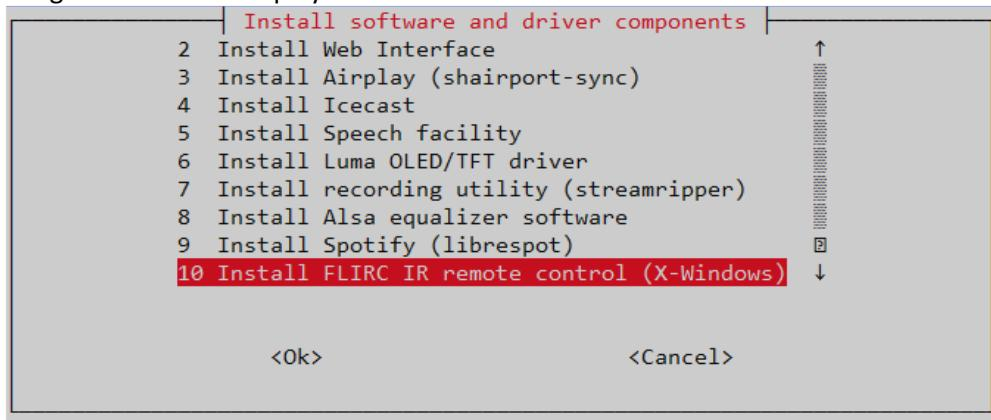

Figure 215 Install FLIRC IR remote control
- Select option **10 Install FLIRC IR remote control (X-Windows)** from the **radio-config** menu shown in *Figure 215 Install FLIRC IR remote control* on page 163. Note that you will need to use the down arrow key on your keyboard to see option 10.